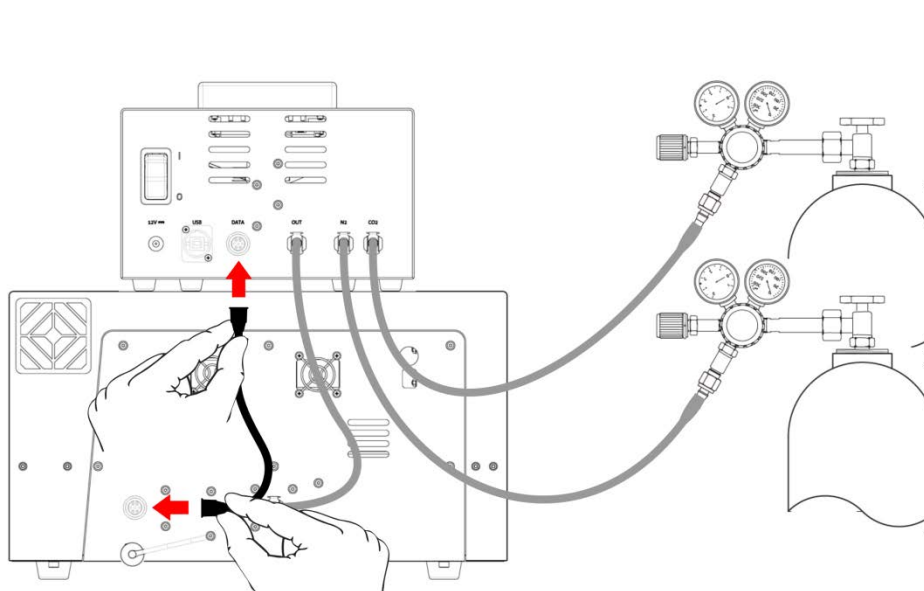

Figure 29
5. Use the provided data cable to connect the module with the Infinite 200 PRO instrument (see Figure 29, below). USB connector for data-logging with i-control software V1.10 or higher (See IFU i-control, chapter 6.2 “Prerequisites”, for driver installation).